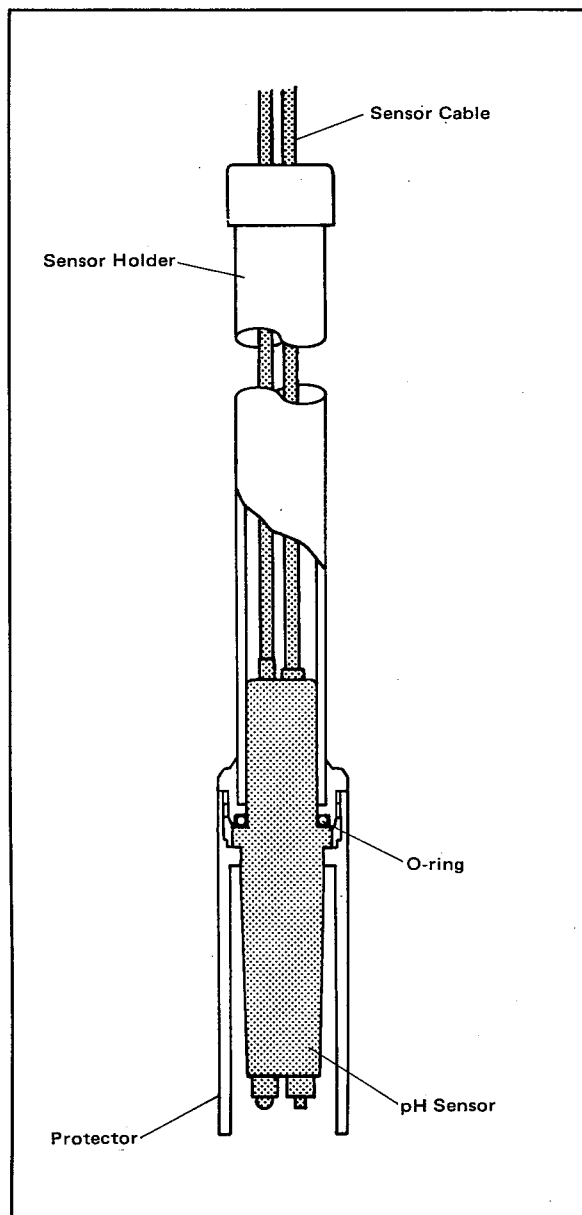

Figure 2-8. Sensor Installation (Submersion Type).
- (6) Screw the protector on the sensor holder to fix the sensor in the holder. Screw the protector securely on the sensor holder so that the flange of the sensor body compresses the O-ring firmly (see Figure 2-8).
- (7) Remount the sensor holder on the mounting pipe, flange or cleaning holder.